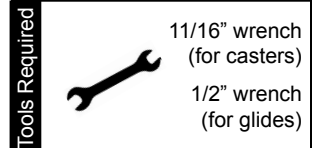

Figure 1A
1. Determine if you want casters or glides installed. Figure 1A.